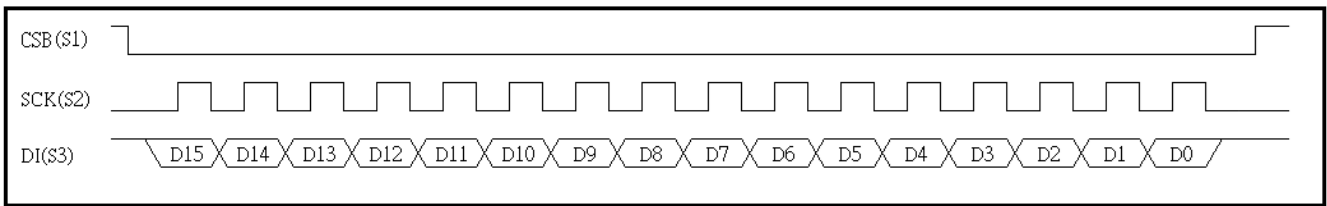
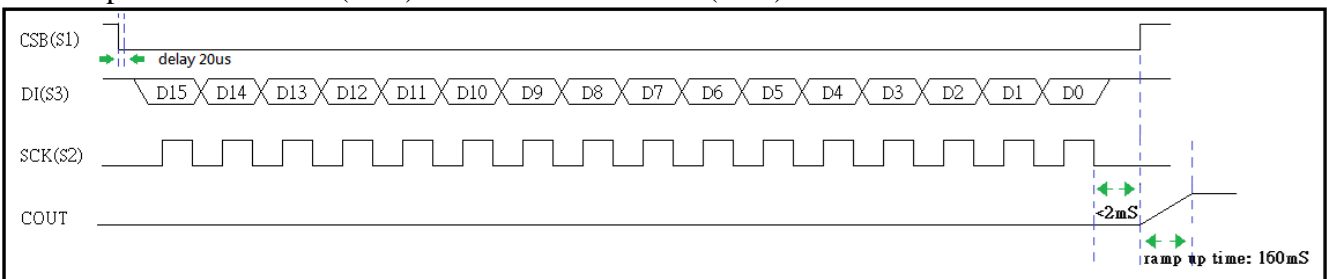
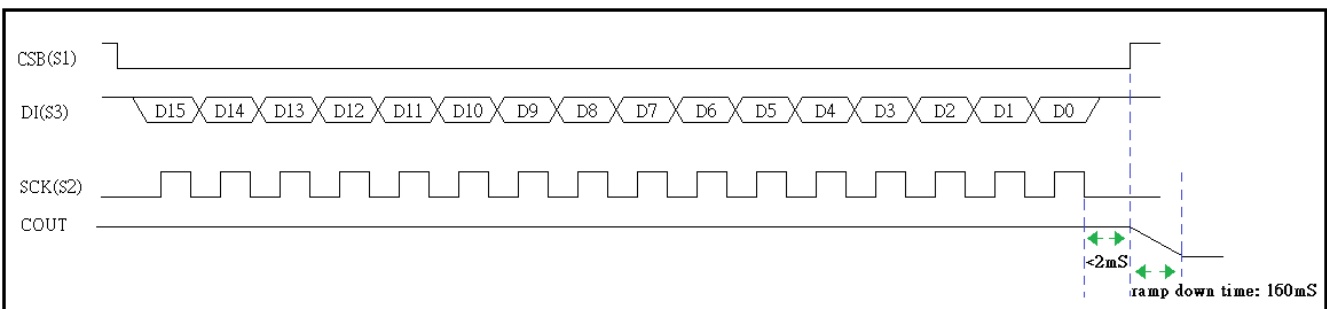

Fig.15 SPI Command timing
Fig. 16 Power-Up command timing
Fig. 17 Power-Down command timing
- (1). Load Voice Group Address :
- a. Command timing reference Fig.15 SPI Command timing.
- (2). Play Voice Group Address :
- (3). Power up with RAMP-UP(PU2) or without RAMP-UP(PU1) :
- a. Command timing reference Fig. 16 Power-Up command timing.
- (4). Power-down with RAMP-DOWN(PD2) or without RAMP-DOWN (PD1) :
- a. Command timing reference Fig. 17 Power-Down command timing.
- (5). Volume Set (VOL[3:0]) :
- (6). Volume ++ (VOL++) :
- (7). Volume -- (VOL--) :
- (8). Pause and Resume (PAUSE; RESUME) :